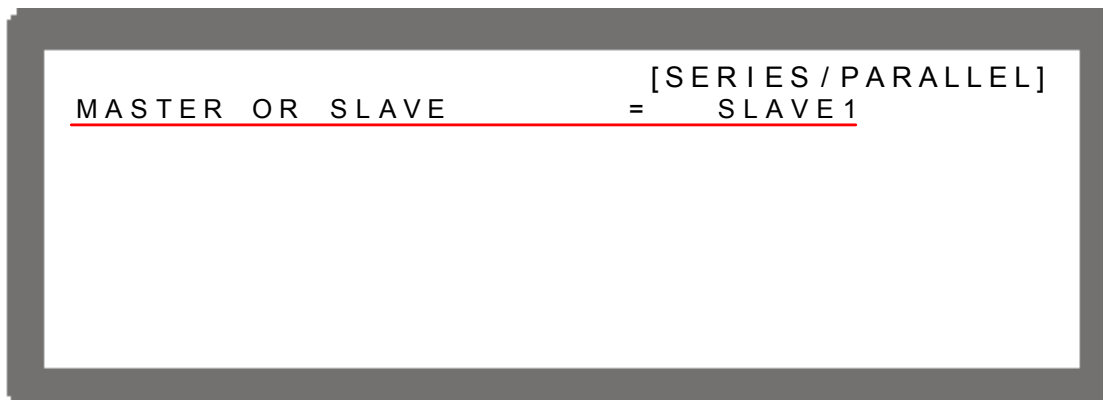

Figure 3-37
2. Use the numeric (1~4) keys or “Rotary” (⊙) knob to set SLAVE1~SLAVE4 as Figure 3-37 shows.